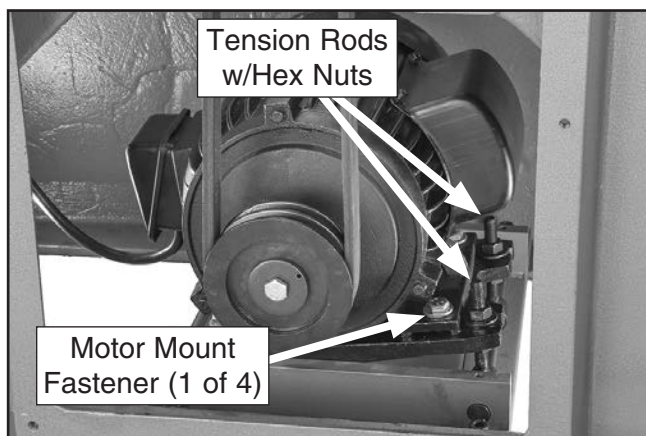

Figure 43. Location of motor tension rods, hex nuts, and motor mount fasteners.
4. Loosen hex nuts on motor tension rods (see **Figure 43**).
5. Loosen motor mount fasteners (see **Figure 43**).
8. Press down on motor until there is proper tension on V-belts. While holding motor down, tighten hex nuts on tension rods (see **Figure 43**).